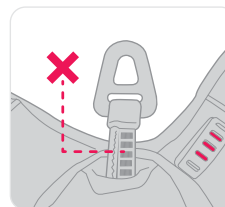

Figure 4
- Ensure that the descent line is not paid out of the device, this would indicate that a descent has occurred (Figure 4). If descent line is paid out the MSA PRD shall be removed from service and advice sought from MSA or authorised agent.